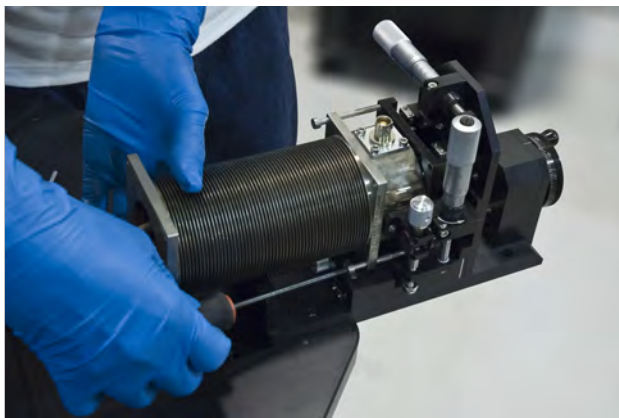

FIGURE 5-21 Loosening the four M4 horizontal screws
2. Using the 3 mm hex driver, loosen the four long M4 horizontal screws that attach the bellows to the z-axis stage, so the probe arm base can rotate (FIGURE 5-21). Simply loosen them two to three rotations; do not remove them.